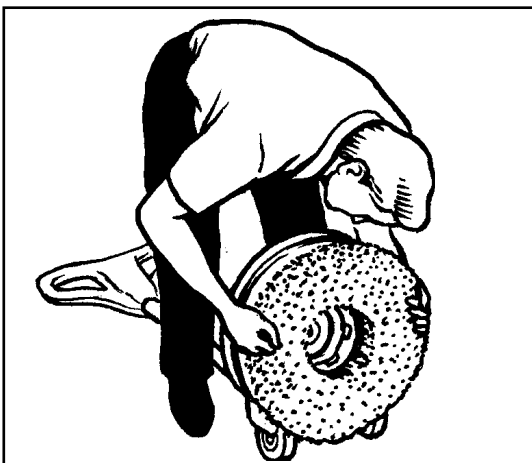

Figure 6
3. Tilt the machine backward until the handle is on the floor. See figure 6.
4. Put one foot on each side of the machine. See figure 6.